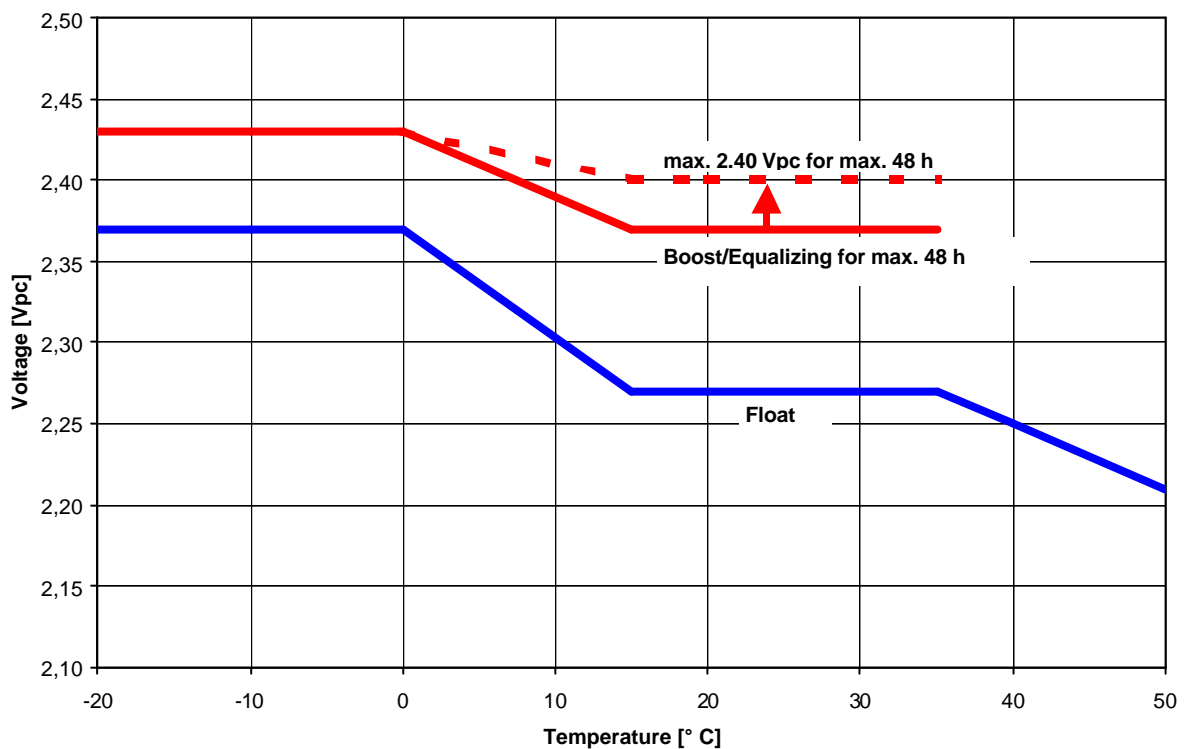

Fig. 3: A 400, Charging Voltage vs. Temperature
- A temperature related adjustment of the charge voltage within the operating temperature of 15° C to 35° C is not necessary. If the operating temperature is permanently outside this range, the charge voltage has to be adjusted as shown in figures 3, 4 and 5.